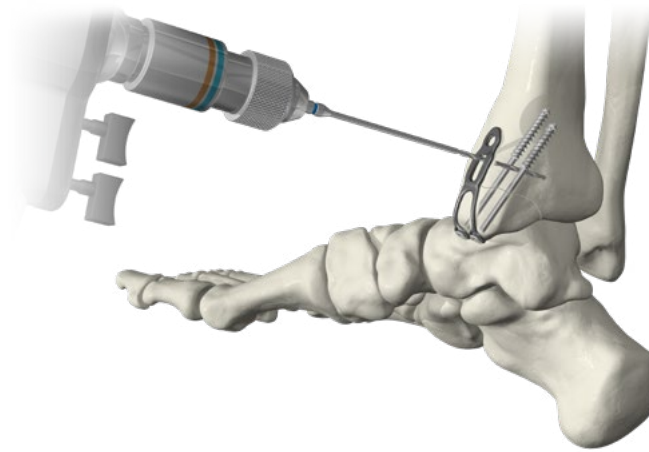

FIGURE 36
9. In the plate's gliding hole, drill for the desired non-locking screw diameter at the proximal aspect of the hole (FIGURE 36). The plate's gliding hole accepts 2.7mm, 3.5mm, and 4.0mm non-locking screws.